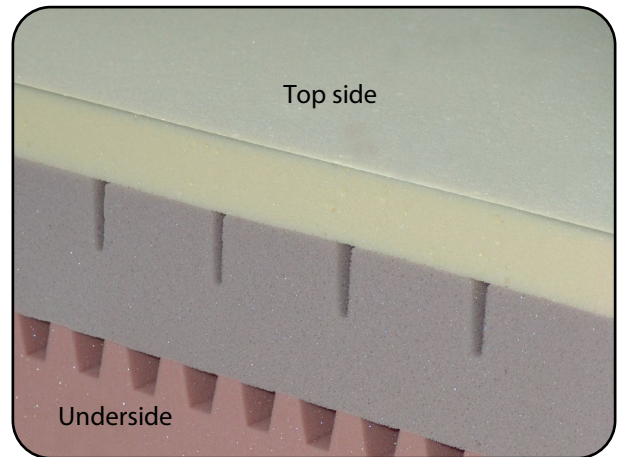

Fig. 6.1.01 - Top/bottom section
- Make sure that the thin viscoelastic foam layer on the product is facing upwards and the foam layer with the structuring at the sides is facing towards the bed’s reclining surface (Fig. 6.1.01).